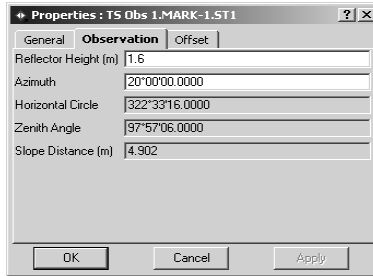

Figure 4-38. TS Properties – Observation Tab
2. On the *Properties* dialog box, click the *Observation* tab (Figure 4-38).